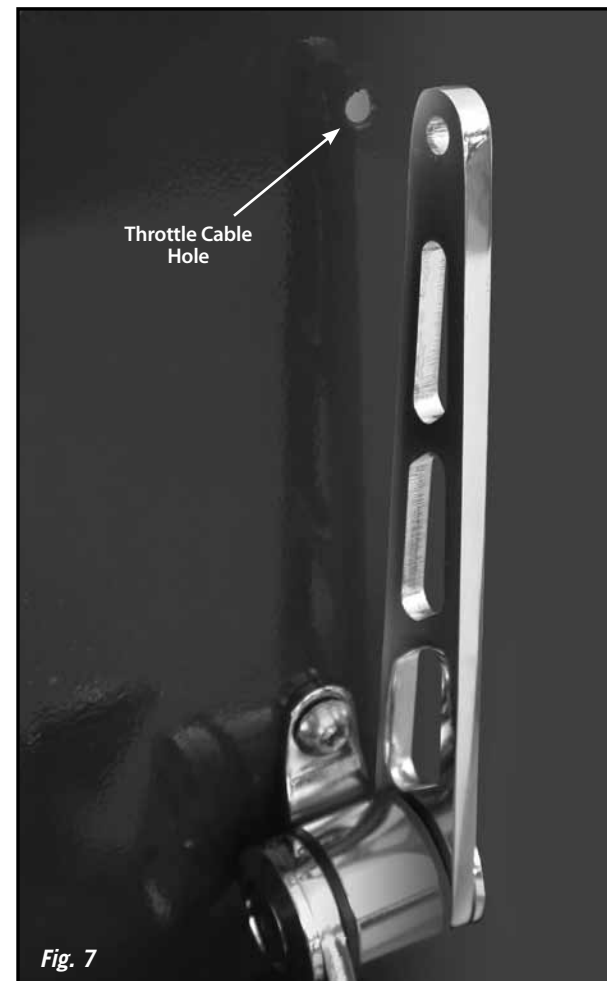

Fig. 7
Step 5: Push the upper arm forward against the firewall. Mark the firewall in line with the 3/16" hole on the end of the upper arm. Drill a 5/16" diameter hole through the firewall for the Lokar throttle cable fitting to mount into. **Fig. 7**